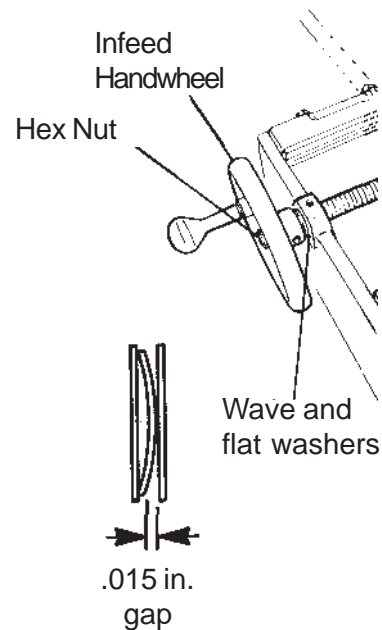

FIG. 35B
C. Check for .015 in. [.04mm] gap between the wave washer and the flat washer. See FIG. 35B. Readjust the hex lock nut if necessary.